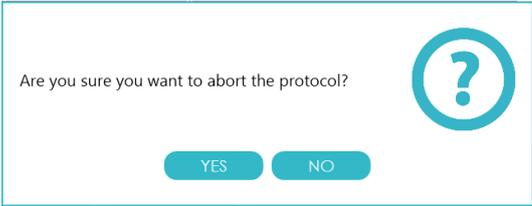

Figure 42) Abort confirmation pop-up
1. Click the Stop button  to abort the protocol execution and confirm this action in the pop-up (see section 8.4.4 and Figure 42).